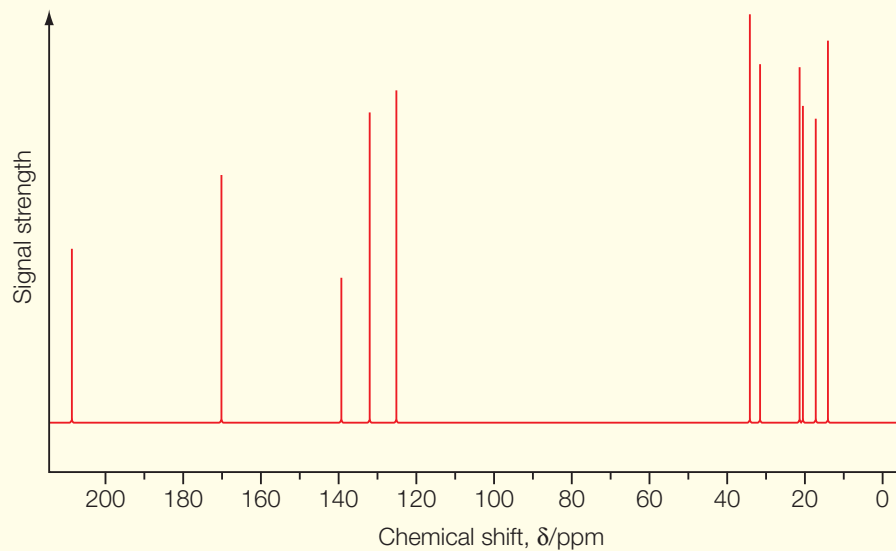

Figure 9.26 ◀
- 3 Refer to the carbon-13 NMR spectrum in Figure 9.26.